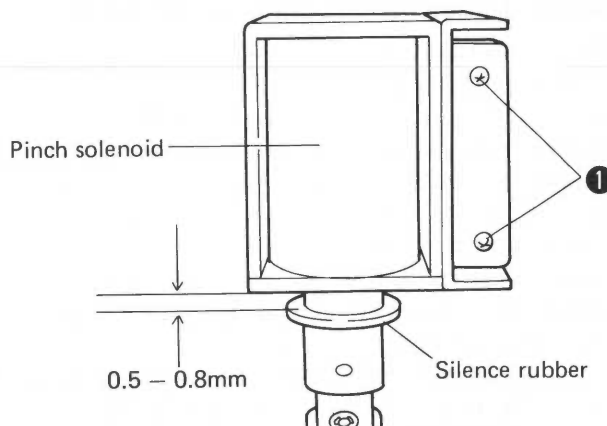

Fig. 6-5 Pinch roller pressure adjustment
1. Push the movable core of the pinch solenoid upwards by hand. At the point when the pinch roller meets the capstan, loosen screw ❶ to obtain a gap of 0.5 to 0.8mm between the pinch solenoid and silencer rubber as shown in Fig. 6-5, and then adjust the position of the pinch solenoid.